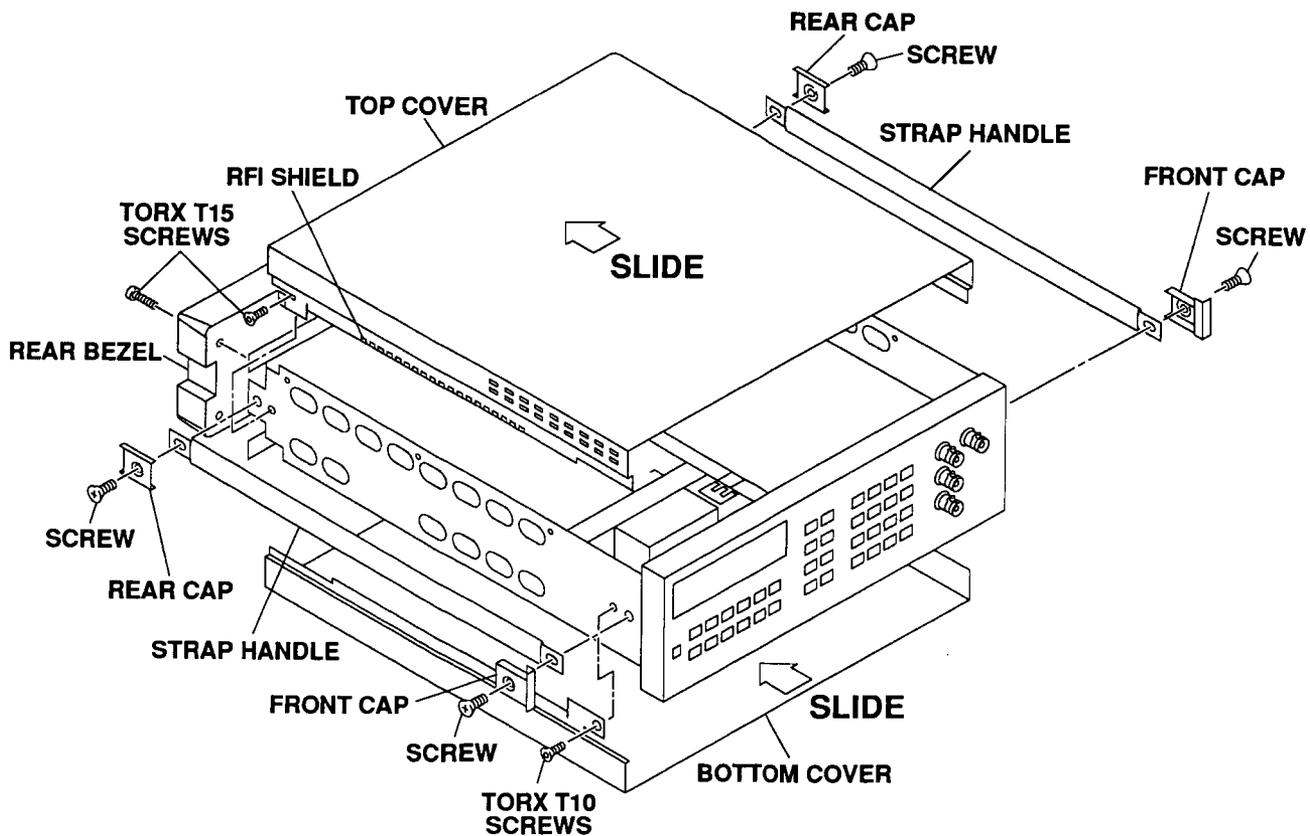

Figure 3-3. Remove and Replace Covers
2. Remove both screws, then the front cap, rear cap, and strap handle from both sides of the cover (see Figure 3-3).
1. Remove covers (refer to Figure 3-3).